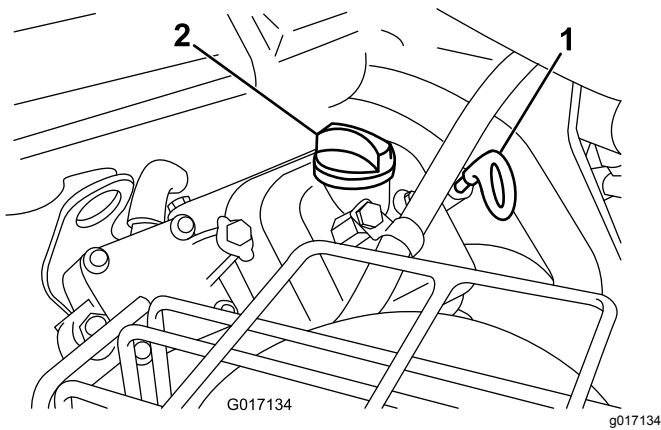

Figure 38
2. Pull the dipstick out and wipe it with a clean rag. Push the dipstick into the tube and make sure that it is seated fully (Figure 38).